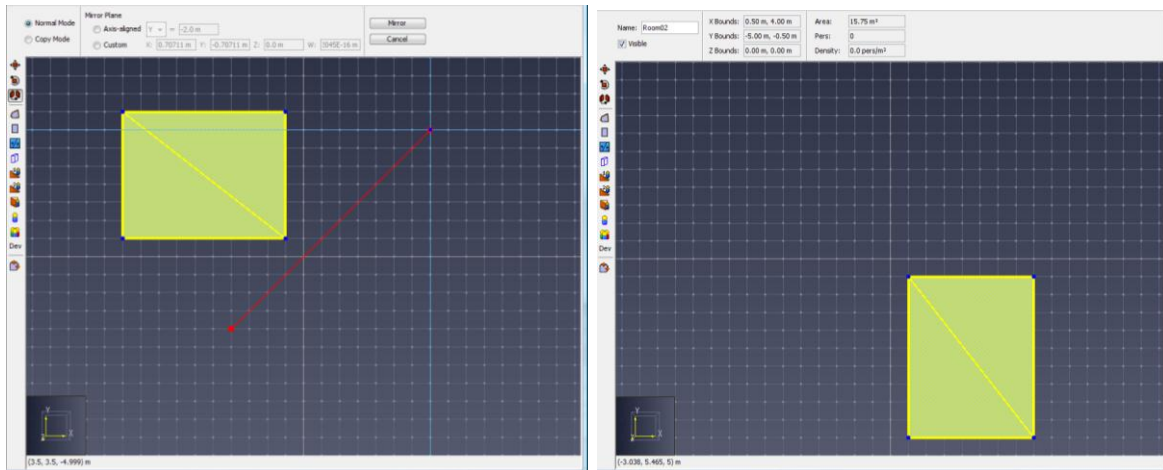

Figure 67: Mirroring an object
- **Graphically:** This is performed most easily in one of the 2D views. The mirror plane is always perpendicular to the camera's view plane. Defining the plane requires two mouse clicks that define two points in the plane. The steps for mirroring graphically are shown in Figure 67.